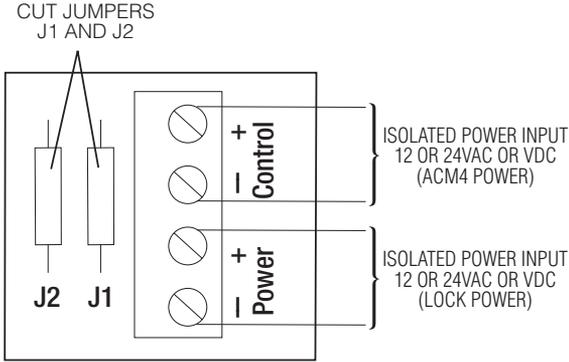

Fig. 3
5. **Fire Alarm Interface options (Figs. 3 through 7, pg. 6 - 7):**
Connect the positive (+) and negative (-) from the FACP signaling circuit output to the terminals marked [+ INP -]. Connect the FACP EOL to the terminals marked [+ RET -] (polarity is referenced in an alarm condition). Jumper J3 must be cut (Fig. 3, pg. 6).
| FACP INTERFACE T, + INPUT - | Fire Alarm Interface trigger input from FACP. Trigger inputs can be normally open, normally closed from an FACP output circuit (Fig. 3 through 7, pg. 6-7). |